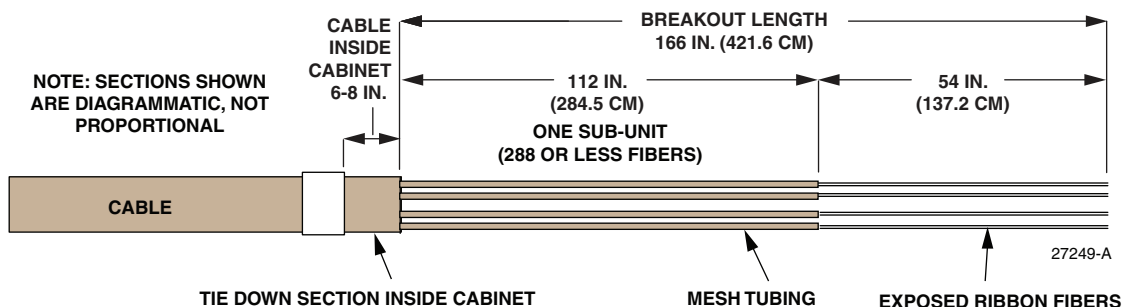

Figure 19. Facility Cable Breakout Exploded View
Table 3 lists the RIBCBOUT series breakout kits available for use with facility cables. All facility cables are broken out to the same dimensions (shown in Figure 19). These dimensions allow approximately 6 feet (1.83 m) of working length for moving the splice tray to a convenient work surface. When the splice tray is returned to the cabinet, the cable management features in the cabinet are used to store slack as needed.
1. Strip back the cable jacket to expose the internal fiber ribbons. Strip the cable at a distance of 166 in. (421.6 cm) from the lead end of the cable as shown in Figure 19.